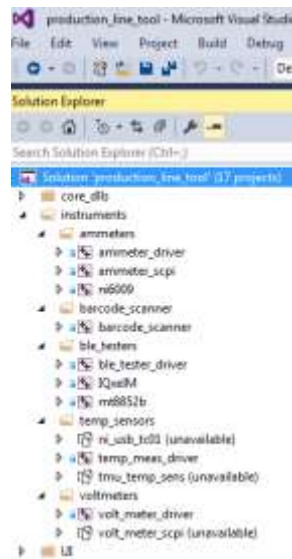

Figure 5: Visual Studio Explorer Tab with Projects Unloaded
9. If the device to be tested is not DA14680-00 (AD), then the ADC gain calibration is not required. The `volt_meter_scp1` project used for this purpose should be unloaded, following the method described above.
12. If all of the mentioned instruments are not required and were unloaded, then the Visual Studio explorer `instruments` tab should look like the one in Figure 5.